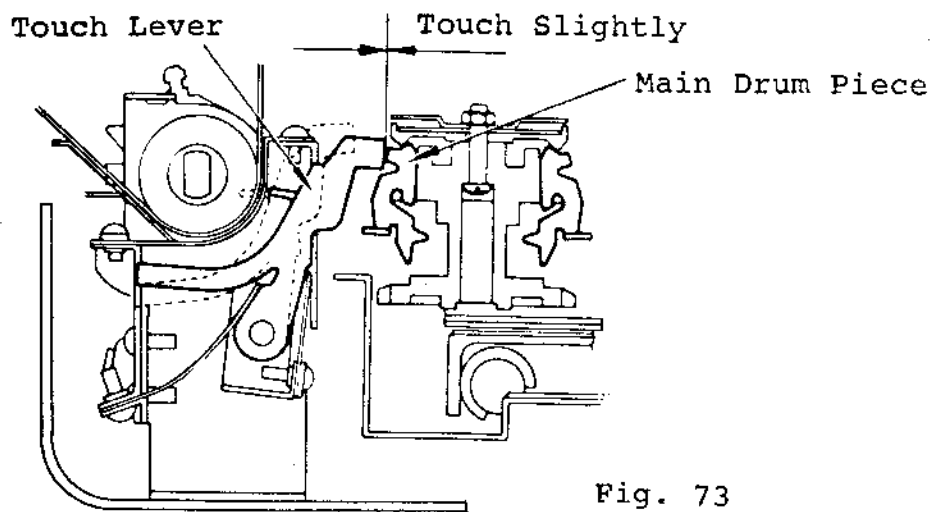

Fig. 73
2. As shown in Fig. 73, move the Carriage so that the Main Drum is aligned with a Touch Lever. Move the Pattern Unit towards the Main Drum so that the clearance between the Main Drum Piece and the Touch Levers will fall within a range of 0.2 m/m.